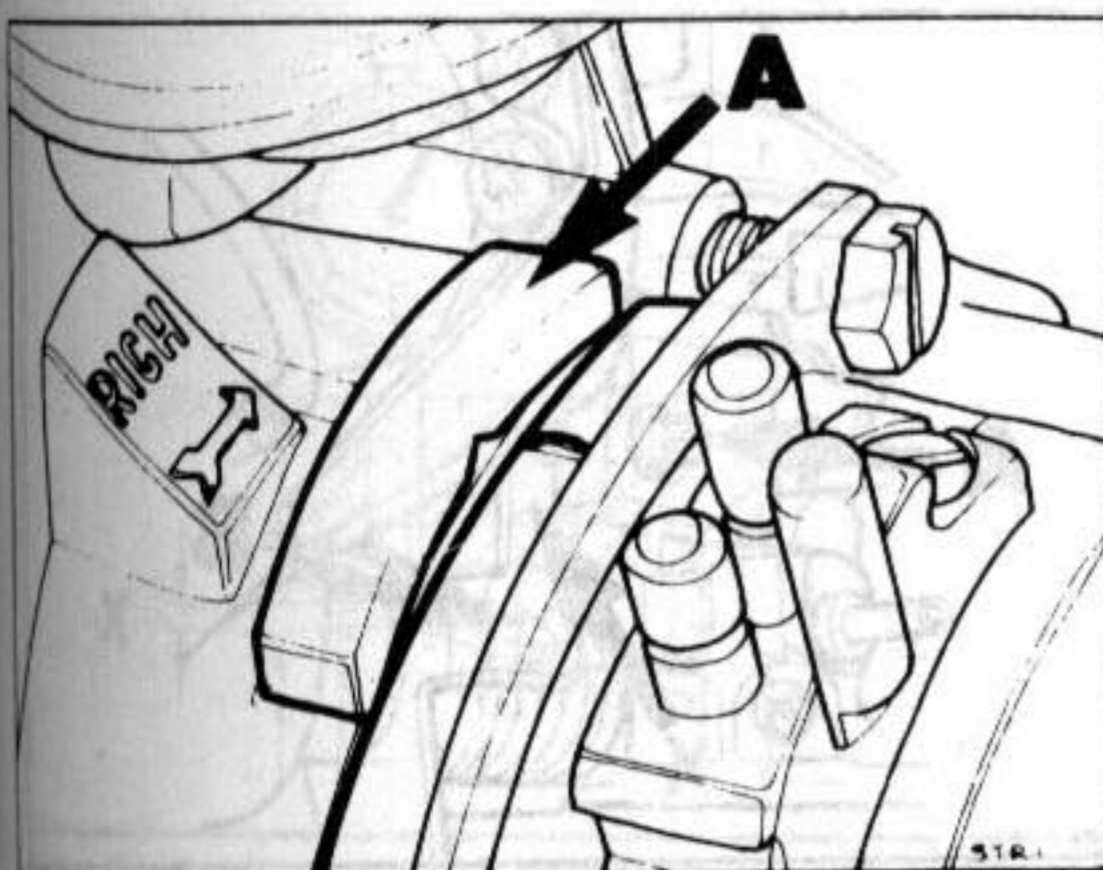

Fig. 5 Plastic cover at choke housing
- c) Remove plastic sealing strip from slot in top of choke housing (A, Fig. 5).